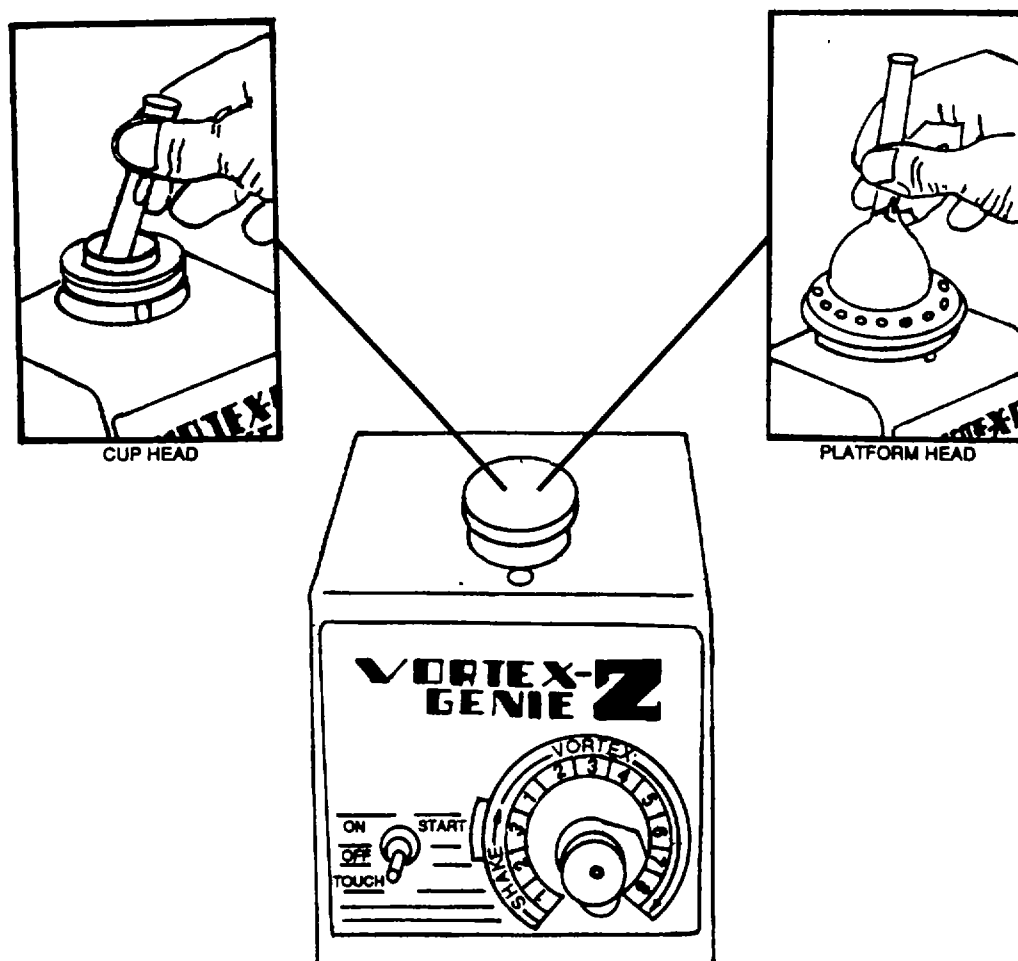

Figure 1-23. Test Tube Mixer
o. *Test Tube Mixer (Figure 1-23).* The Test Tube Mixer has both vortex and shaking actions and allows very slow operation without sacrificing high speed performance. Any desired mix homogeneity can be achieved (and repeated) according to viscosity, miscibility, and container. The mixer is equipped with interchangeable snap-on heads, which are a cup head and a platform head.